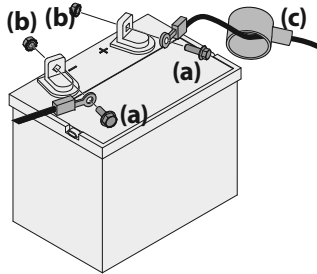

Figure 13
1. If present, remove the plastic cover from the positive battery cable. Attach the red connector to the positive battery terminal (+) using the bolt (a) and hex nut (b). See Figure 13.
2. If present, remove the plastic cover from the negative battery terminal and attach the black cable to the negative battery terminal (-) with the bolt (a) and hex nut (b). See Figure 13.